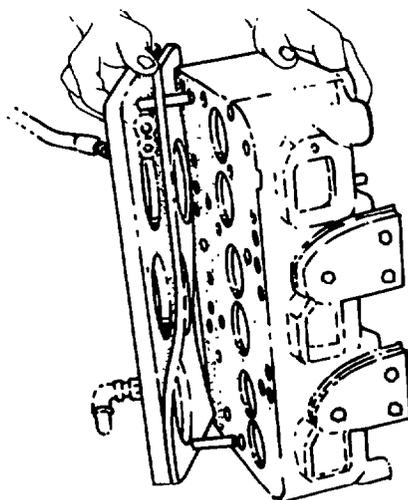

Fig. 5 — Attaching Blanking-off Plate
- a. Block off the water passages in the heads with 6.4 mm (¼ in.) rubber gaskets and steel plates. The bolts securing the steel plates and gaskets to the heads should be tightened enough to prevent leaks (see fig. 5).